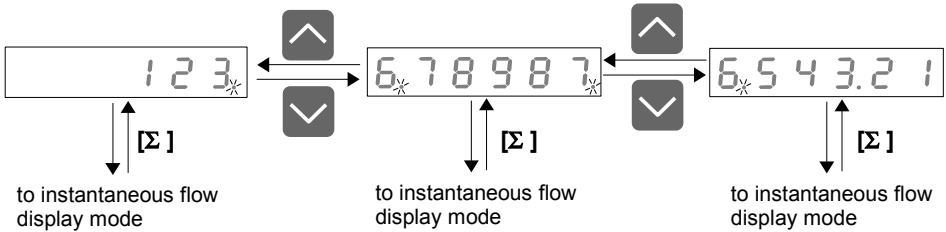

Figure 6.1. Switching between digits (screens) of total flow result.
- while medium digits are displayed both most left and most right decimal points are flashing (Figure 6.1). Most right decimal point signalizes than result has less significant digits – to see these digits press **[v]** button. Most left decimal point signalizes additional more significant digits. Press **[^]** button to see these digits.